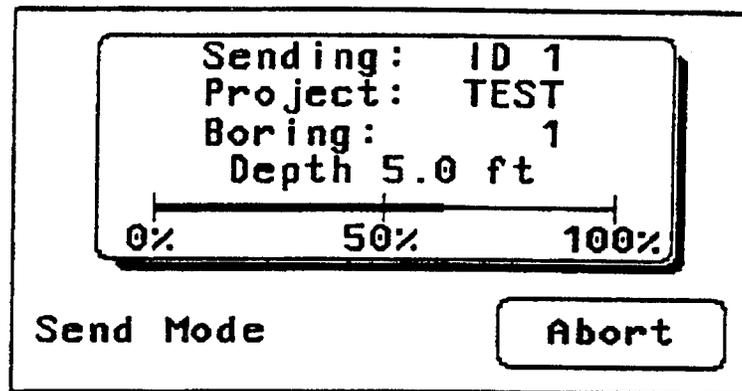

Figure 3-21. Screen while Analyzer is Sending Data.
40. **Execute the command to read file by highlighting and selecting the "RF-Read SPT Analyzer Records" option.** Once this is done, the analyzer commences downloading the specified data to the PC. The Analyzer will display the progress as shown on Figure 3-21. Similarly, SPT-PC will show the progress on its screen. Once completed, the Analyzer's screen will return to the Review screen (Figure 3-13).